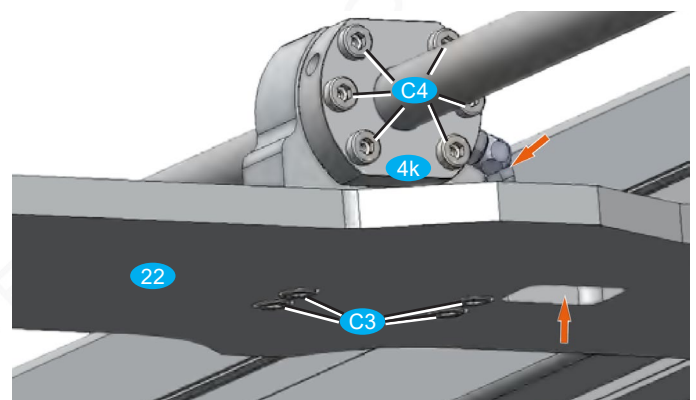

Fig. 13: Screw connection of X-spindle nut and beam
- Tighten the X-axis ball nut grease fitting so that it faces the opening in the gantry beam (red arrows in Figure 13).